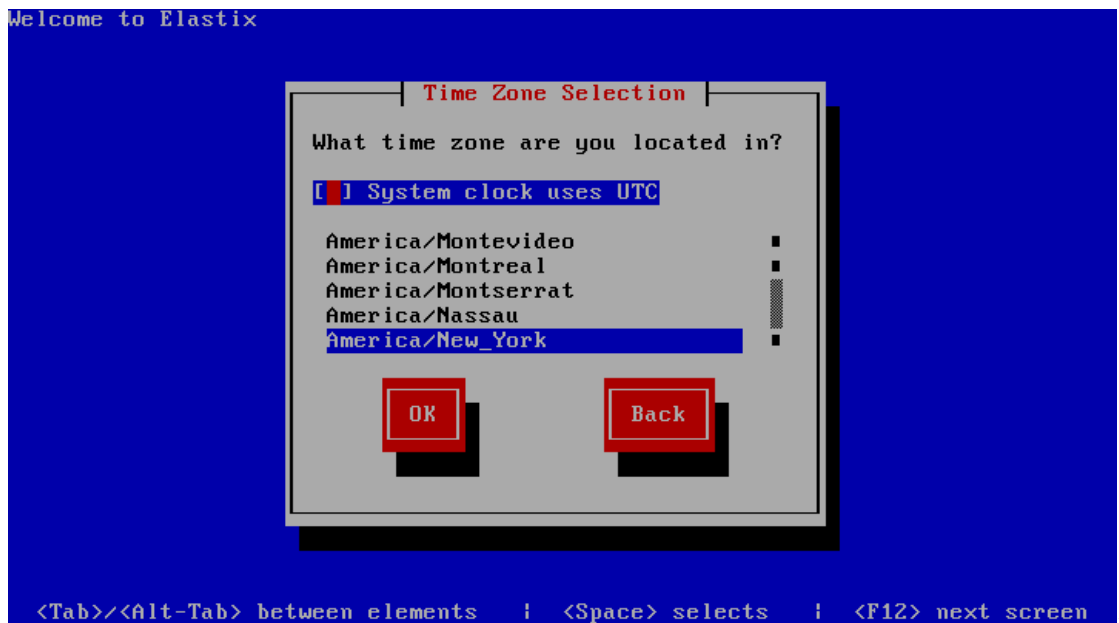

Figure 11
11. Next, select a time zone according to the real situation. Here we select 'America/New_York' (Figure 11).